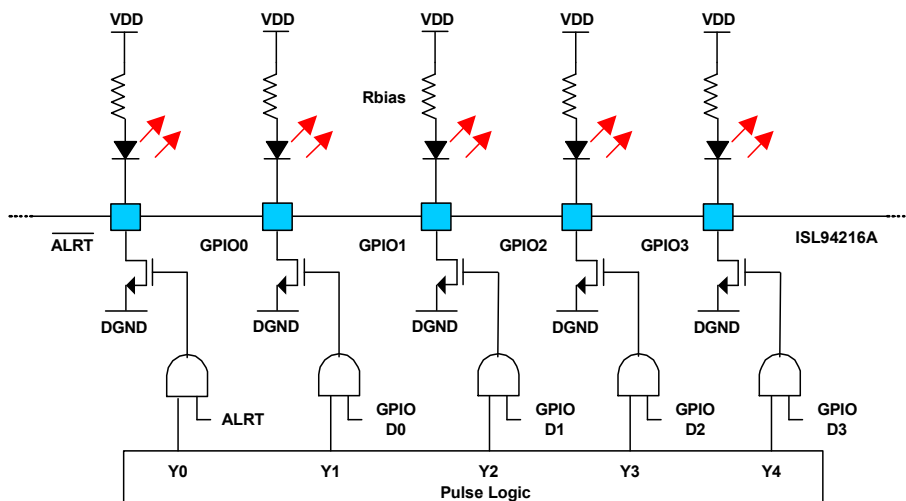

Figure 88. ALRT Pulse EN and GPIOx Drive LEDs
The  $\overline{\text{ALRT}}$  Pulse Enable bit can be used to drive the  $\overline{\text{ALRT}}$  pin in a more power efficient manner. When the bit is 1 and an alert is active, the ISL94216A turns on the  $\overline{\text{ALRT}}$  pin output pull-down device for GPIOpulse\_on (~2ms, page 17) within a GPIOpulse\_per (~10ms, page 17) period. When this bit is 0 (Default) and an alert is active, the ISL94216A drives the  $\overline{\text{ALRT}}$  pin LOW constantly. Figure 88 illustrates the circuit.
**Drive LED:** This option pulses the GPIO pins in a sequential manner to save power. Each GPIO pin is set LOW for GPIOpulse\_on (~2ms, page 17) within a GPIOpulse\_per (~10ms, page 17) period. A simplified schematic is shown in Figure 88. See 0x12.3:0 GPIO STATUS to set the state of GPIO output. Set the GPIO Status bit to 1 to light an LED or to 0 to shut it off.